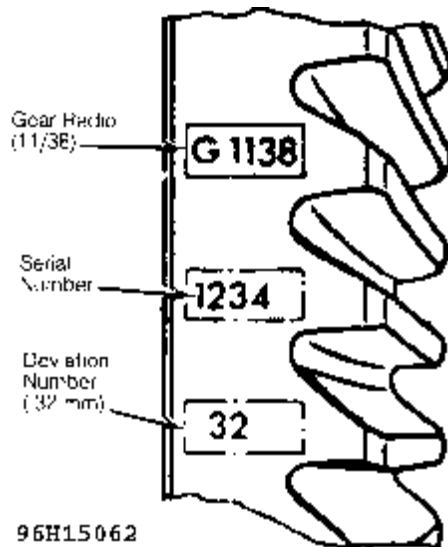

Fig. 24: Numbers on Side of Ring Gear
8) Universal master gauge sets measuring bar to "R0", which is length of master gauge used in factory testing machine to measure deviation "R". Deviation "R" is found on side of ring gear and is always given in .01 mm. See Fig. 24. Different models have different "R0" values.
13) Subtract deviation "R" (stamped on ring gear in .01 mm; See Fig. 24) from value "E" (recorded in step 12)). The result gives thickness of S3 shim, which goes under rear (large) drive pinion bearing. To determine thickness of S4 shim, which goes under front (small) drive pinion bearing, subtract S3 thickness from total shim thickness (as determined in step 4)).